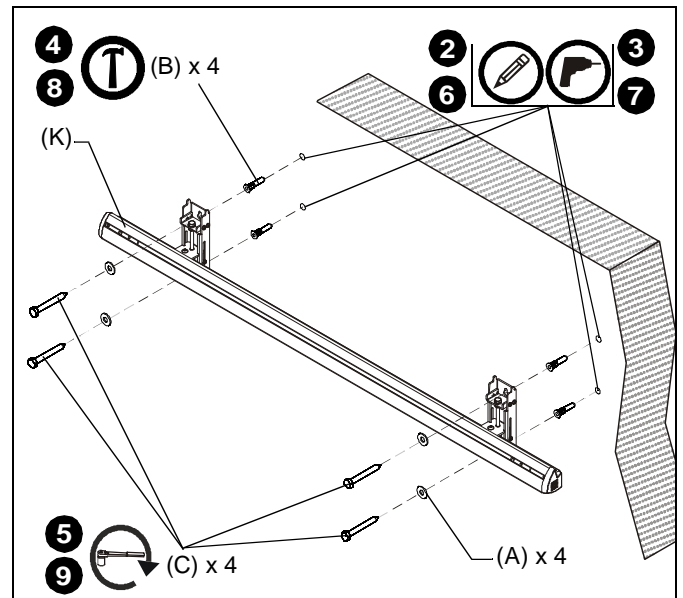

Figure 5
**NOTE:** The two WBM3E wall brackets on the wall assembly (K) must be mounted a **minimum** of 16" apart, or a **maximum** of 42" apart.
2. Using a level, mark the wall above existing chalkboard through top mounting hole in the wall assembly (K). (See Figure 5)
3. Drill one 1/4" x 2-3/4" pilot hole at each marking. (See Figure 5)
4. Install a Toggler (B) into each pilot hole using a hammer. (See Figure 5)
5. Use two 1/4-20 x 2-1/2" lag bolts (C) and two 1/4" flat washers (A) to attach wall assembly (K) to anchors in wall. (See Figure 5)
6. Mark the wall through the lower mounting hole in the wall assembly (K). (See Figure 5)
7. Drill one 1/4" x 2-3/4" pilot hole at each marking through lower mounting hole in wall assembly (K). (See Figure 5)
8. Install a Toggler (B) into each pilot hole using a hammer. (See Figure 5)
9. Use two 1/4-20 x 2-1/2" lag bolts (C) and two 1/4" flat washers (A) to attach wall assembly (K) to anchors in wall. (See Figure 5)